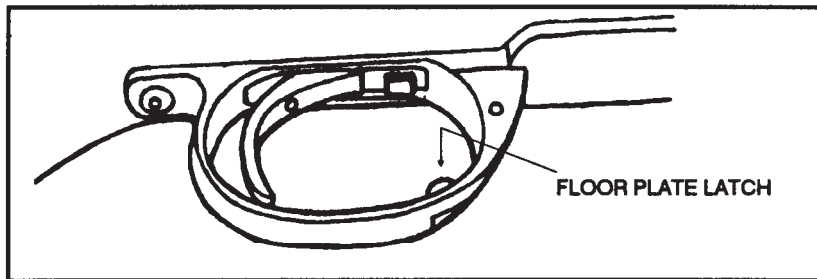

Figure 2-17. Floor plate latch.
- (1) Point the muzzle in a safe direction.
- (2) Ensure the safety is in the “S” position.
- (3) Raise the bolt handle.
- (4) Put one hand over the top ejection port. Slowly pull the bolt handle back with the other hand to remove the cartridge from the chamber.
- (5) Remove the cartridge from the rifle.
- (6) Put a hand under the floor plate.
- (7) Push the floor plate latch to release the floor plate (Figure 2-17, page 2-18). The magazine spring and follower will be released from the magazine.
- (8) Remove the released cartridges.
- (9) Push in the magazine follower, then close the floor plate.